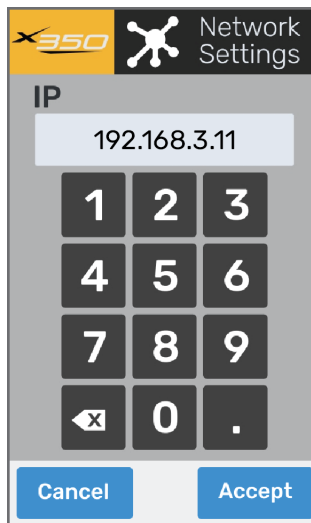

Figure 36 - Editing the IP Address
2. Tap the **IP** box, and then type a unique IP address for the head (**Figure 36**).